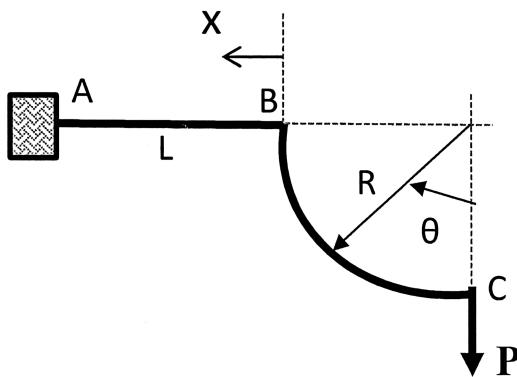

Figure 2
- (i) Determine the relationship between the applied force (P) with respect to the spring stiffness (k), the bar length, L , and the angle theta (θ). Use the Principle of Virtual Work (PVW). Neglect friction and self-weight of the bars. (6 marks)
- (ii) Calculate the applied force P in newton (N), if the angle theta, θ is 30° , the spring stiffness, $k = 100 \text{ kN/m}$. The length, $L = 1.0 \text{ m}$. (3 marks)
- (b) A cantilever beam, AB with a length of L , is welded to a curved beam, BC at joint B, as shown in Figure 2. The curved beam of radius of R , has a concentrated load, P , applied at the free end at C. The vertical deformation at point C can be calculated using the Unit Load method by applying a unit load at point C.
- (i) Draw and illustrate the Real Load diagram and Virtual Load diagram using the datum shown in Figure 2. Write down the bending moment expressions for M_{CB} , and M_{BA} for the Real Load diagram and virtual moment expressions for m_{CB} , and m_{BA} for the Virtual Load diagram. (6 marks)